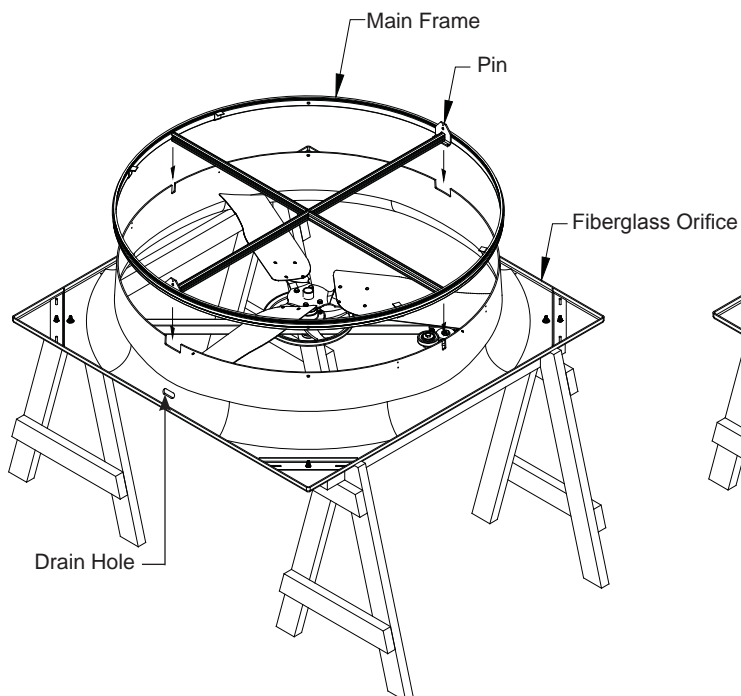
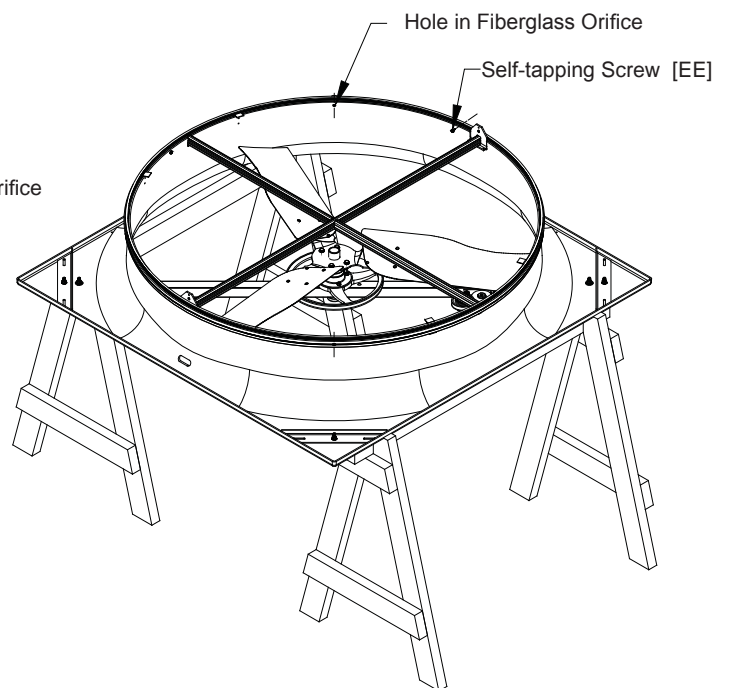

Figure 8A
Figure 8B
Slide the Main Frame Assembly onto the Fiberglass Orifice with the pin on the Main Frame opposite the drain hole. See Figure 8A. Line up the 4 holes in the Main Frame with the holes in the orifice and fasten using (4) Self-tapping Screws [EE] paying attention to stay at least 15 mm from the Orifice edge to avoid damaging it. See Figure 8B.